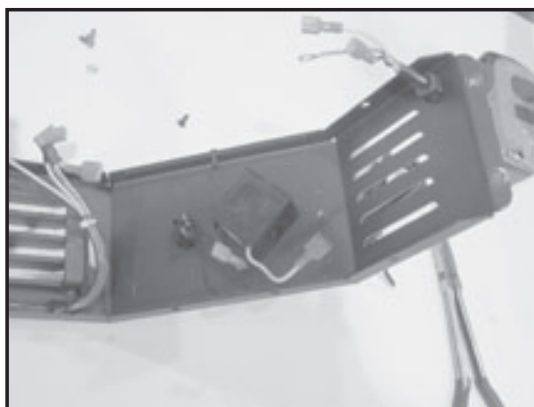

Figure 19.2
3. Disconnect all the wires from the switch, rheostat and power cord. **Figure 19.2.**